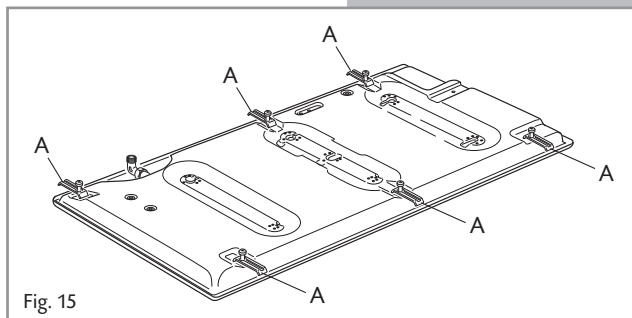

Fig. 15
### Fastening the Installation Brackets (fig. 15)
- Make sure that the brackets are fastened as shown in figure 15.